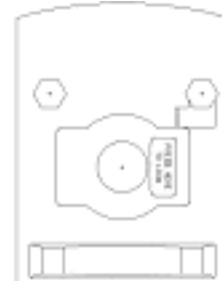

Fig. 4
5. To remove the gear and the shield, rotate the shield 1/4 turn clockwise. (Fig.4)